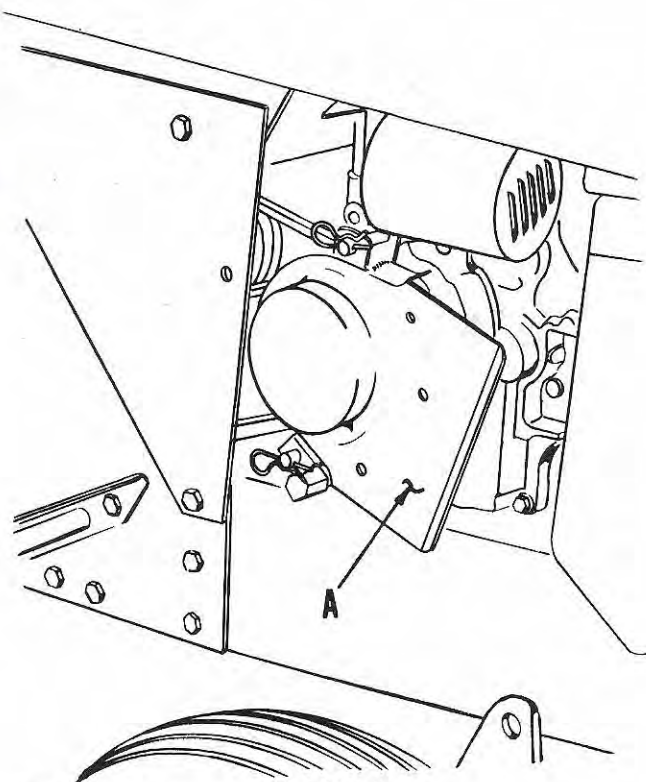

FIG. 5
1. The belt guard (A, Fig. 5), is used for the Rotary Mower, Cutter Bar Mower and Rotary Snowplow. However, this belt guard can be left in place for normal tractor operation even when one of the above attachments are not being used. The machine screws, bushings and nuts shipped with guard should be stored in a safe place or positioned in the guard for safe keeping. Instructions for the placement of the screws, bushings and nuts were shipped in same plastic bag.